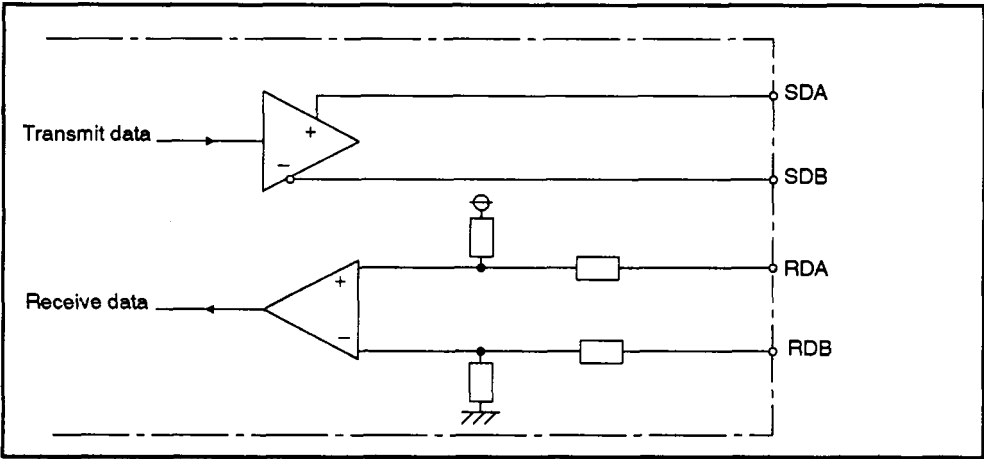

Fig. 5.2 RS-422/485 Interface Function Block Diagram
(1) Fig. 5.2 shows the RS-422/485 interface function block diagram.